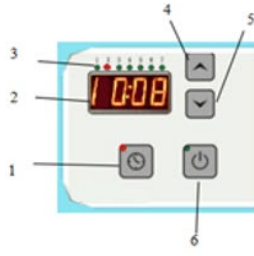

Fig.6-1
- Press and long-hold ⌚ Key (1) twice until the weekday indicator lights flash, then click Key (4) or (5) to select the correct weekday (Monday to Sunday from left to right) (Fig. 6-1).